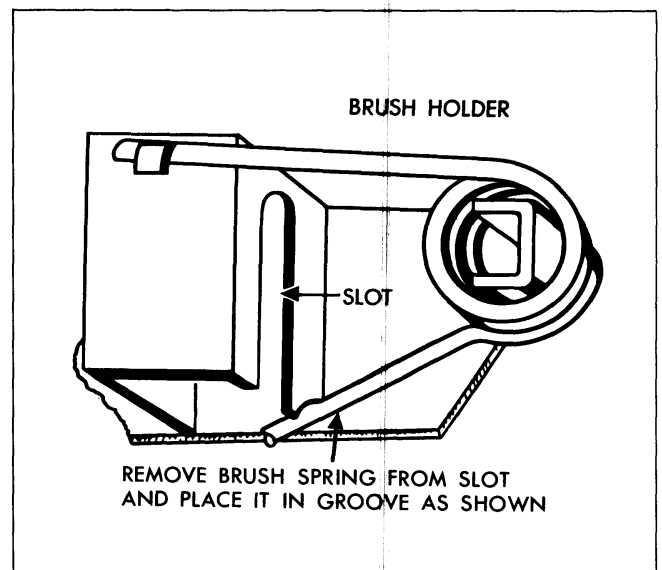

Fig. 11-81 Brush Spring
- c. Brush springs improperly positioned (See Fig. 11-81).
3. Release brush spring pressure against brushes as shown in Fig. 11-81.